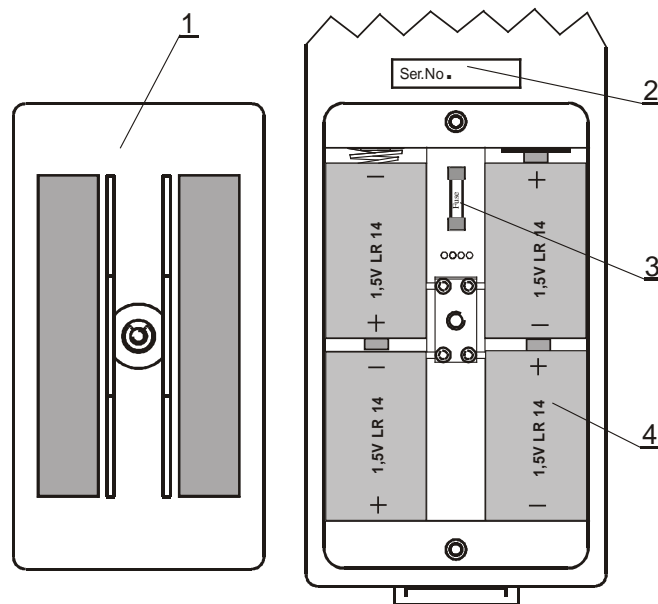

Figure 14. Correct polarity of inserted batteries
- Insert the cells correctly, otherwise test instrument will not operate and batteries may be discharged. See figure 14 for correct battery polarity.
The instrument contains a fuse to protect the instrument from damage if the batteries are incorrectly inserted. See figure 14 for fuse location.